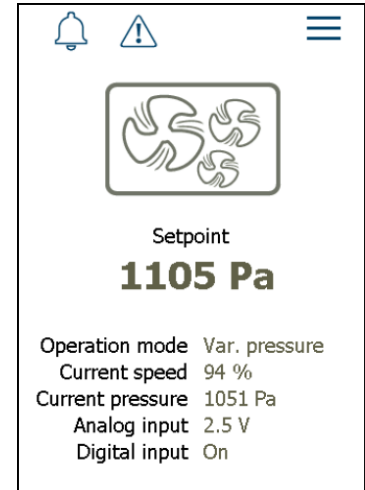

Fig. 11-11: Home screen
The content of the home screen depends on the configuration of the HMI3. fig. 11-11 shows the home screen with set pressure control, analogue setpoint setting and digital release.
2. Enter the main menu by pressing the icon at the top right of the home screen (see section 11.7.1, fig. 11-11).
2. DEVICE-SCAN: The scanning process starts automatically and scans the bus for the devices connected to the system. Press the "(X) CONNECT DEVICES" button to go to the next step.
4. CONTROL MODE: Select the desired setpoint source. You can choose between manual input (via start screen, see setpoint in fig. 11-11) and external reference via analogue input.
5. START COMMAND: Select the desired options for enabling the system. You can choose between manual input (via start screen, see fan icon on fig. 11-11), two analogue thresholds and the digital input.